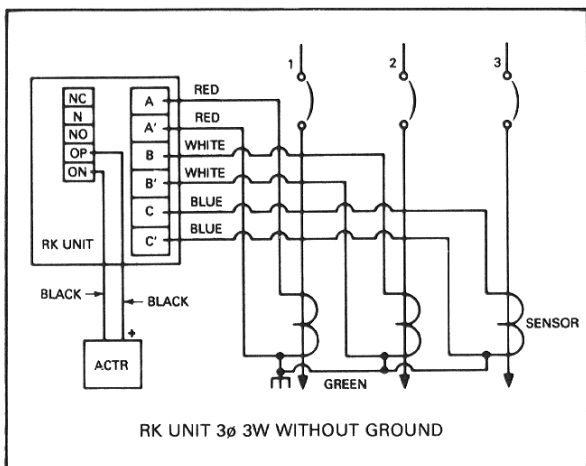

Fig. 9 Wiring Diagram
1. Acquaint yourself with the wiring scheme. See schematic Fig. 9.